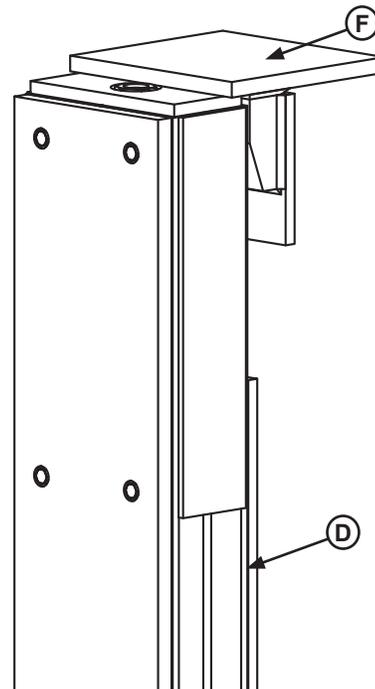

Figure 15b
1. With the leveler in its stored position, align bumper mounts (D) with bumper pads (F) on dock leveler platform (A). Without compressing the bumper assembly, keep the top of the bumper flush with the underside of the bumper pad stop. (See Figure 15b).
2. Install two (2) 5/8" x 4-3/4" anchors in lower bumper mount holes (E).
3. Weld upper portion of bumper mounts to the curb angle (B).